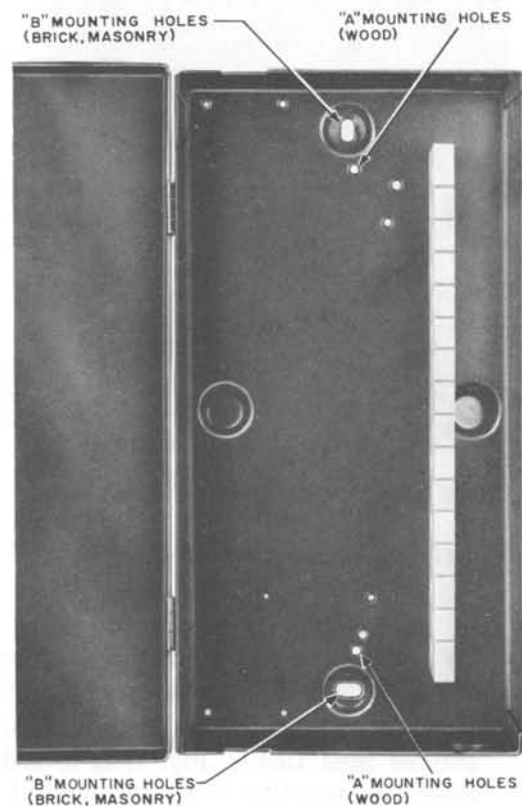

Fig. 1 — G-type Terminal Box Mounting Holes
as shown in Fig. 1. There should be at least a 3/4-inch penetration into a firm backing.
1. Using stud driver covered in C Section entitled Stud Driver. Fig. 1, 2, 3, and 4 show the mounting holes and method of installing.